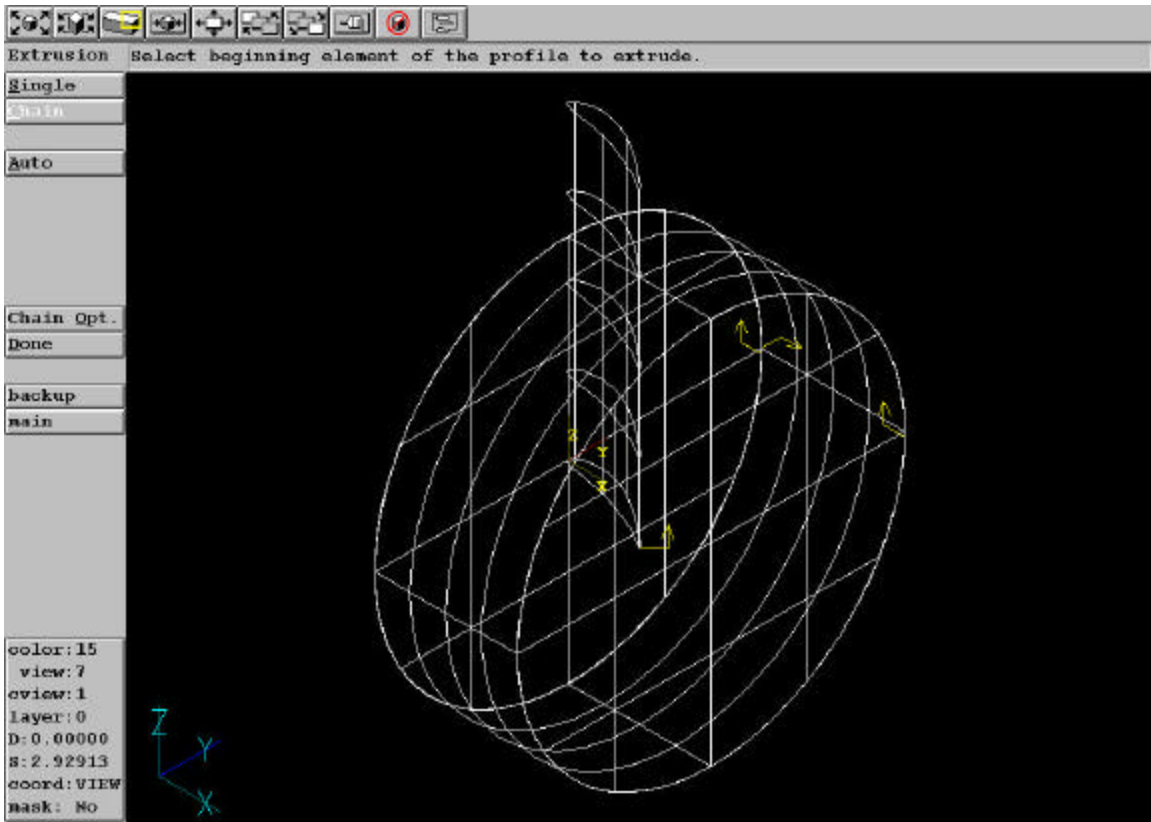

Figure 35: Hub with one blade extruded
- 9.) Click SINGLE to select the airfoil cross section in the center of the hub. After the section is selected, click DONE. The airfoil will become a blade for the turbine. See figure 35 for the extruded blade and hub.